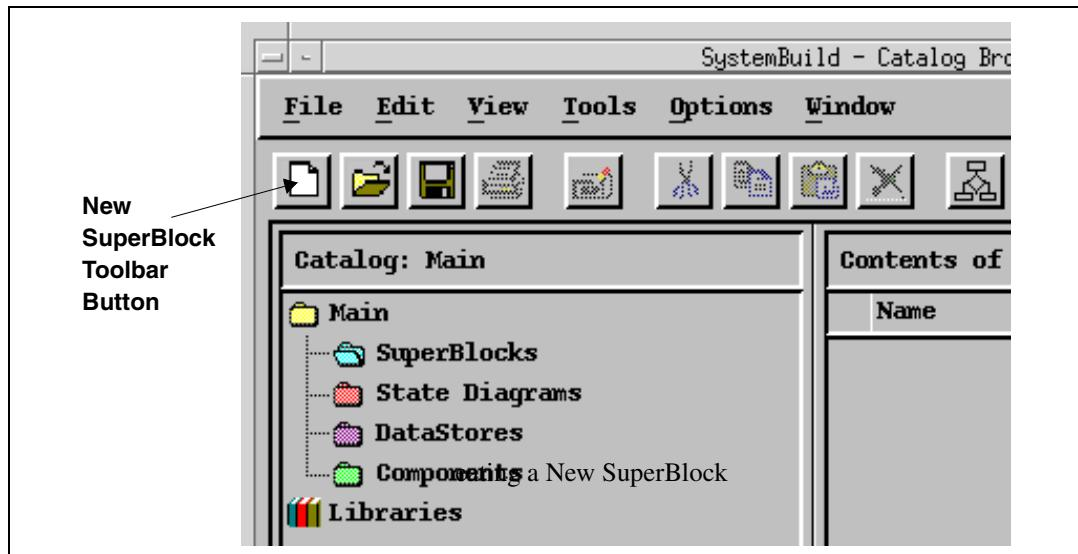

Figure 4-4. Creating a New SuperBlock
1. Select File→New→SuperBlock or click the **New SuperBlock** toolbar button in the Catalog Browser to create a new SuperBlock (see Figure 4-4).